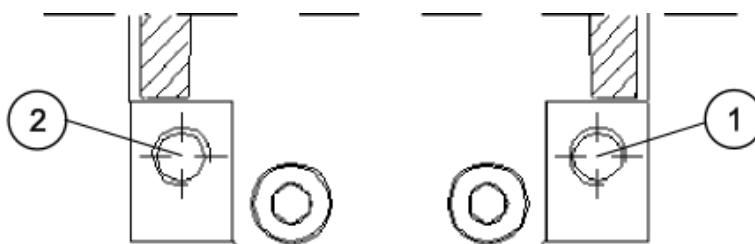

Fig. 3.
5. Connection of the feeding cylinder. The connected compressed air must be of good quality. 6 – 7 Bars (87 – 101.5 Psi). Max pressure 8 Bars (116 Psi). Anslutningen sker då lämpligast via en luftberedningsenhet med ett luftfilter och tryckregulator. Oil-mist lubrication is an advantage, but not necessary. The unit is provided with plug-in couplings for plastic hoses of Ø8 mm (5/16") outside diameter for compressed air connection. The inside diameter shall be ø6 mm (1/4"). See Fig. 3.